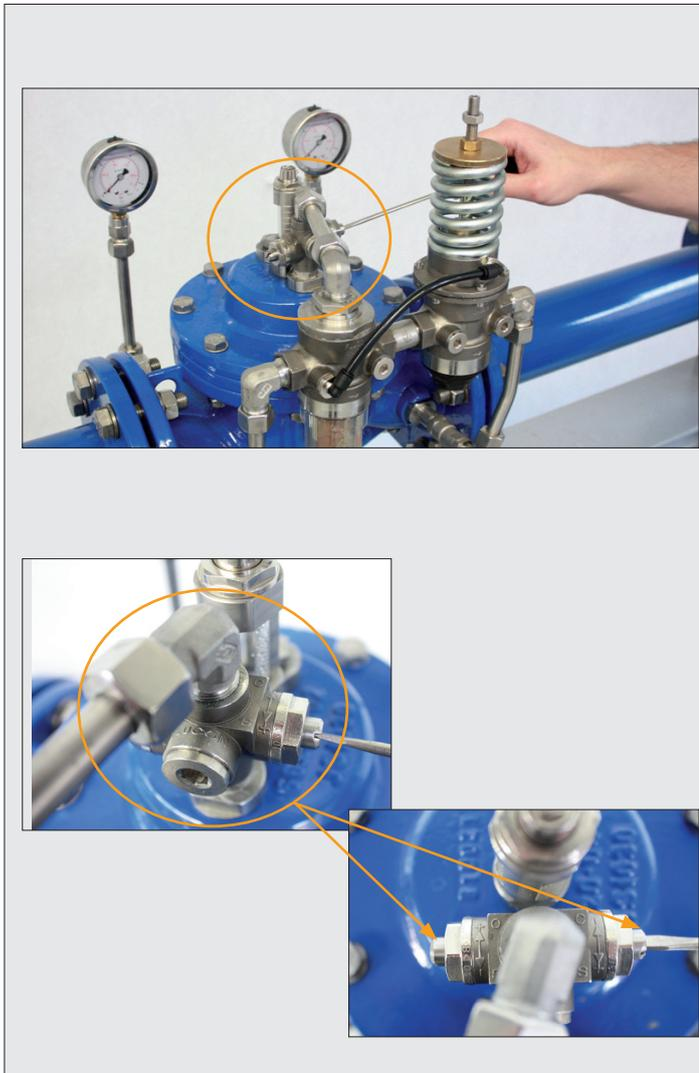

Figure 17: Adjustment of the opening and closing speed
- The opening and closing speed is adjusted via throttle valves in the control circuit (see Figure 17). This allows both speeds to be adjusted separately. The adjustment screw for the opening speed is marked OS (opening speed) and the adjustment screw for the closing speed is marked CS (closing speed). The speeds are adjusted using a slot-head screwdriver. Before the response speeds can be adjusted, the adjustment screws first